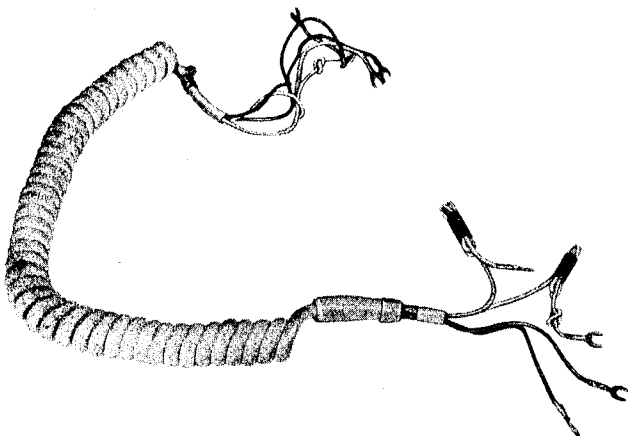

Fig. 5 — H4CJ Cord, Modified
(3) Loop and tie or tape the excess length of white conductors to approximate length of red and black conductors (Fig. 5).
(4) Insert conductors in transmitter bowl carefully so as not to disrupt the printed board circuit.